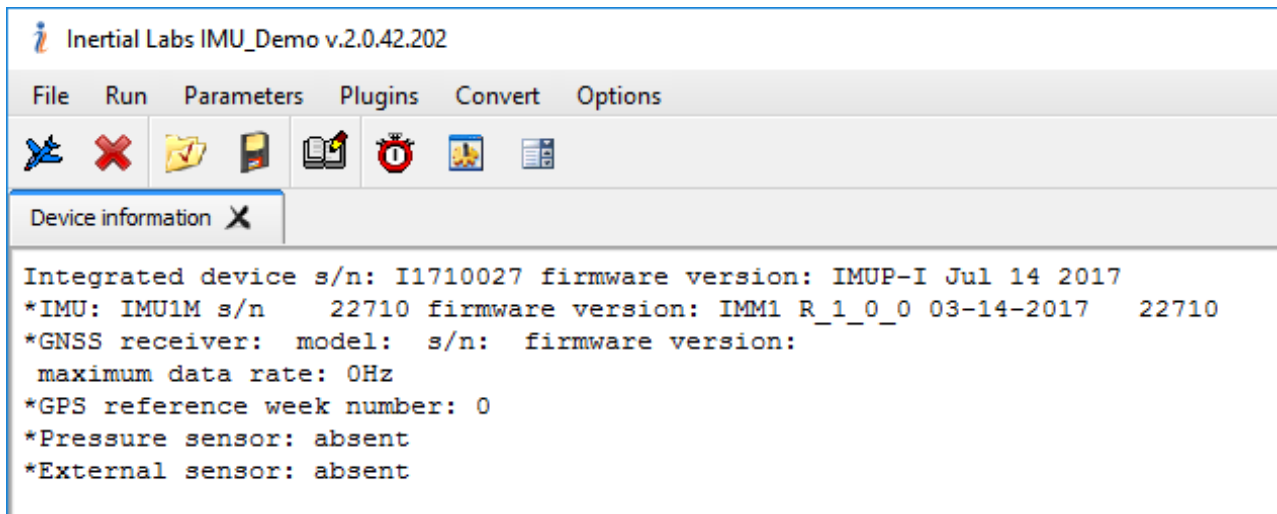

Fig.5.7
- **Device Information** – opens tab with the IMU main information: integrated device (IMU) serial number and firmware version; IMU1 serial number and firmware version; parameters of GNSS receiver; GPS reference week number; pressure sensor type (see Fig.5.7).
Note the Inertial Labs™ IMU does not include GNSS receiver, so related fields in the Device Information on Fig.5.7 are empty, and GPS reference week number = 0. If you need in IMU with GNSS receiver please contact the Inertial Labs.